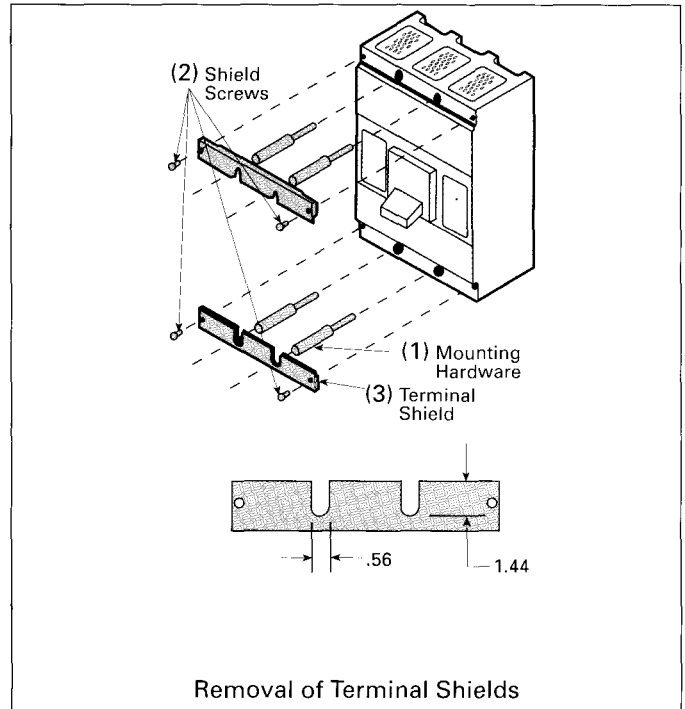

Figure 1
- B. Attach the circuit breaker to the connect-all mounting block using the mounting hardware (1) supplied with the motor operator (Figure 1).
- C. Remove the four shield screws (2) and two lug shields (3) (Figure 1).